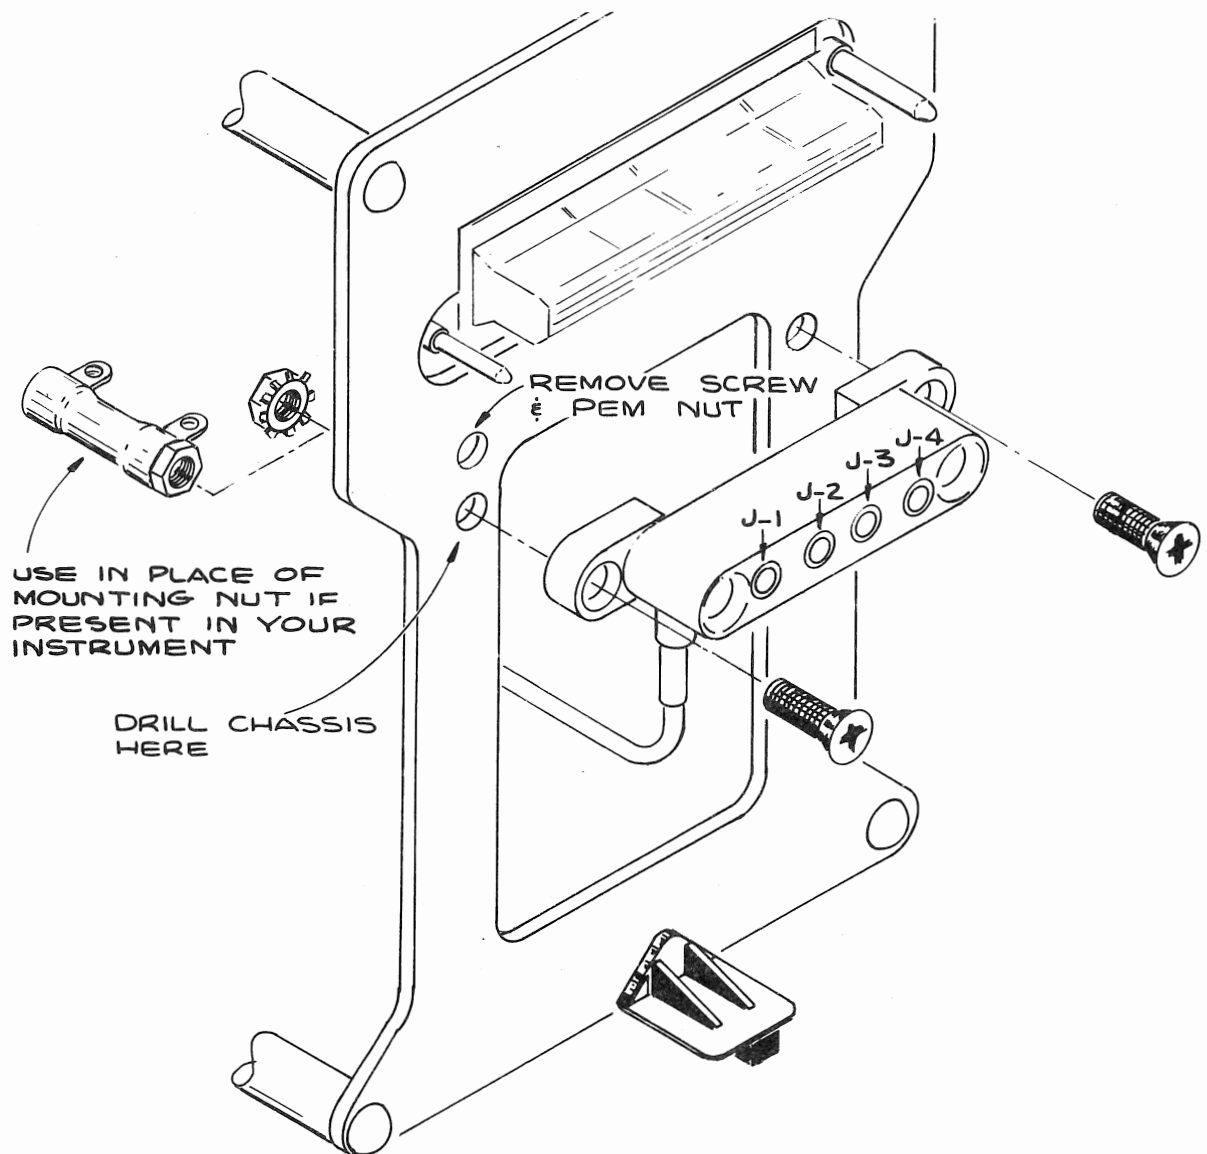

Fig. 3, 75/3A75
- ( ) 4. Mount the coax connector holder (from kit) on the rear plate, using the 6-32 flathead screws and Keps nuts from the kit (see Fig. 3).
- ( ) 5. Install the coax-connector assembly (from kit) in position J-1 on the holder, as shown in Fig. 3.